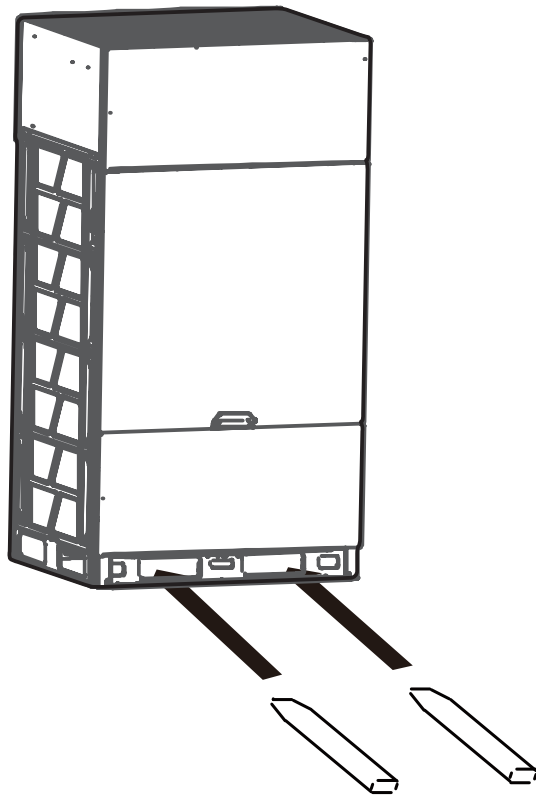

Fig. 8 – Forklift Method
- To move the unit with a forklift, insert the forks into the opening at the bottom of the unit, as shown in Fig. 8.